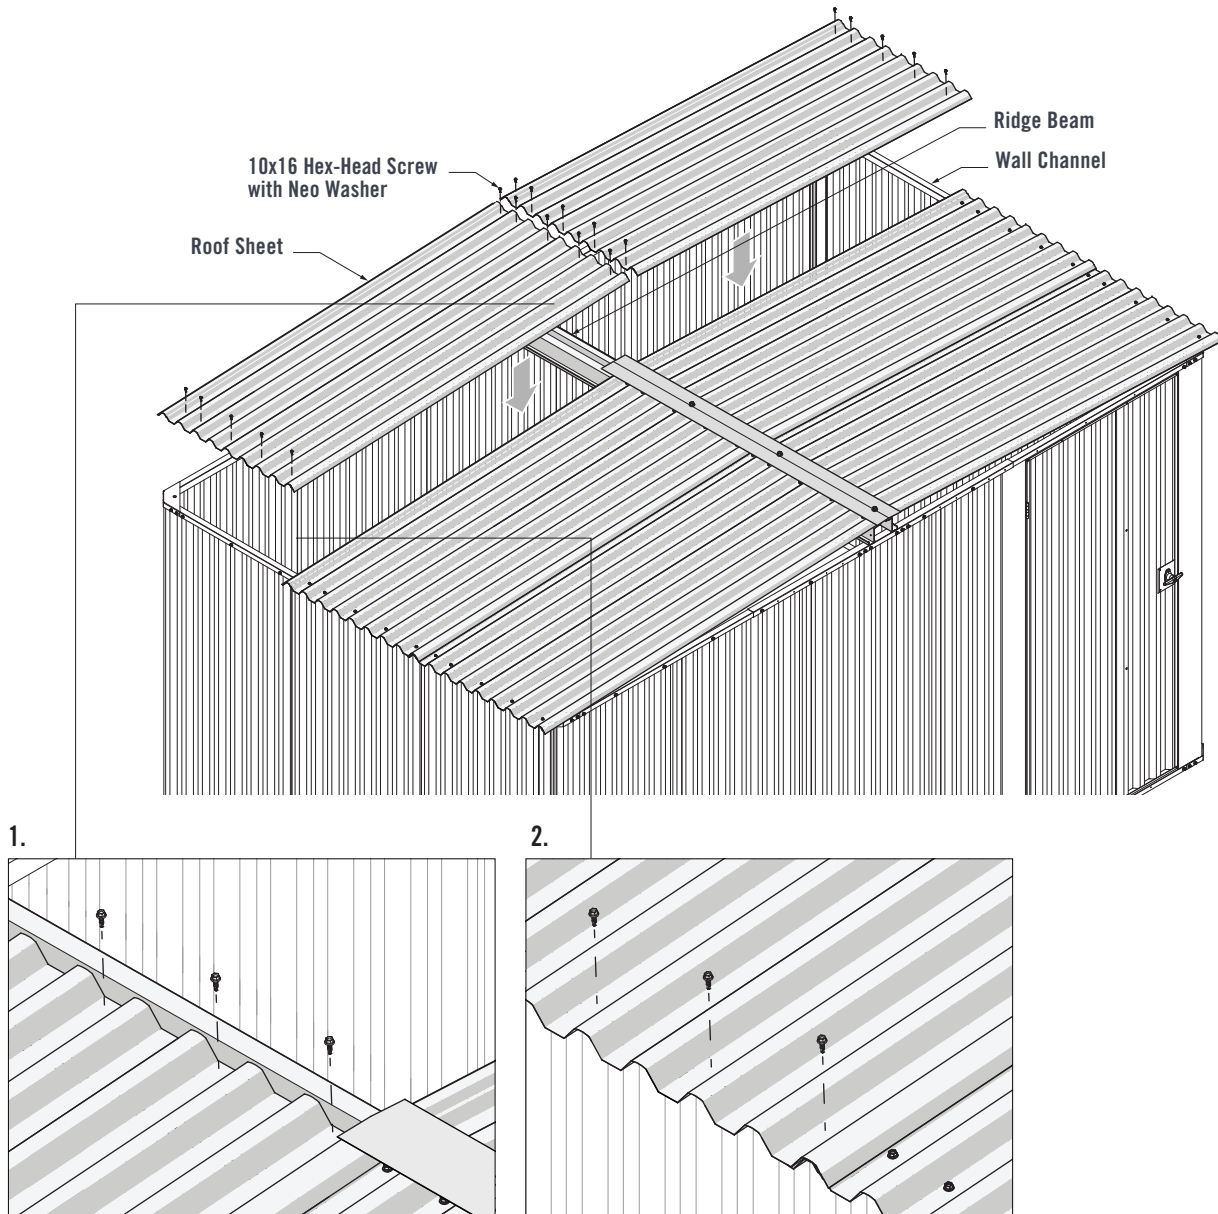

FIGURE 8.6
Refer to Sheet layout in Figure 8.2. Lay the next Roof Sheet onto the Ridge Beam and Wall Channel Assembly, ensuring the overlap end of the Roof Sheet is facing the front of the shed (Figure 8.6).
1. Ensure the Roof Sheet is hard against the step of the Ridge Beam. Fasten five 10x16 Hex-Head Screws with Neo Washers through the pans of the Roof Sheet and into the Ridge Beam (Figure 8.6).
2. Fasten five 10x16 Hex-Head Screws with Neo Washers through the pans of the Roof Sheet and into the Wall Channel Assembly (Figure 8.6).